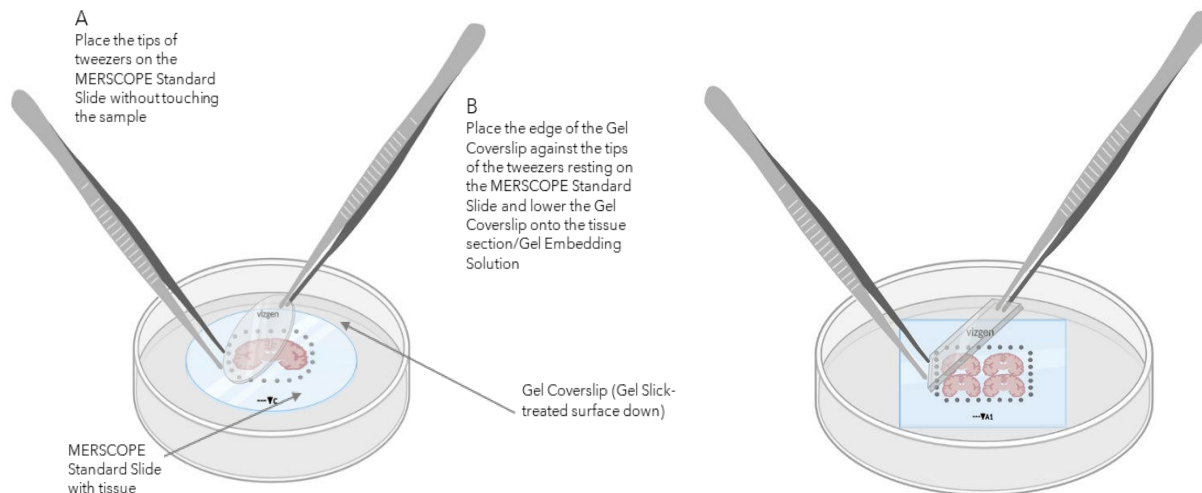

Figure 8. Steps to place Gel-coverslip onto tissue section on Standard and Large slides
- Place the tips of one pair of tweezers on an area of the MERSCOPE Slide V 2.0 without touching the tissue section. Use tweezers to pick up the Gel Slick-treated Gel Coverslip. With the Gel Slick-treated side **facing down** toward the tissue, place the edge of the Gel Coverslip against the tweezer tips resting on the MERSCOPE Slide, creating stability, and slowly lower the Gel Coverslip onto the tissue section to spread the Gel Embedding Solution. If needed, adjust the Gel Coverslip so it is positioned in the center of the slide (Figure 8).